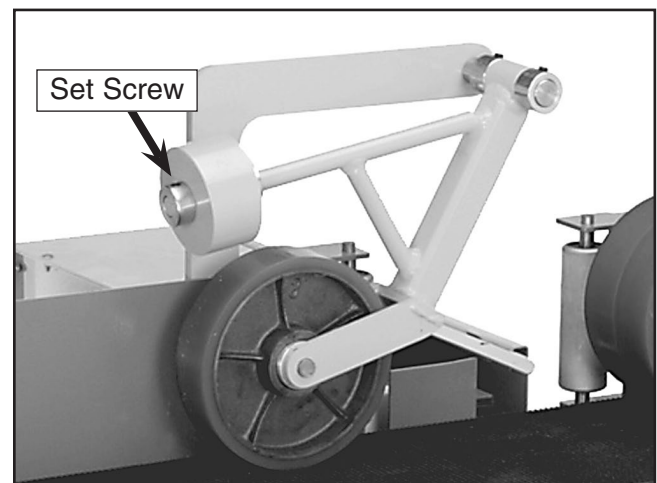

Figure 32. Outfeed pressure roller.
6. If the workpiece hangs up on the outfeed pressure roller, loosen the set screws shown in **Figure 32**, and slide the weight up the shaft, then tighten the set screws.